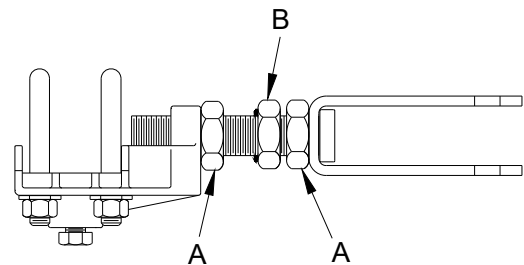

Fig 10. Vernier Adjustment On Offset Rod
- e. To adjust the offset rod length, loosen the locking nuts (Fig. 10, A) and rotate the turning nut (Fig. 10, B) to lengthen or shorten the offset pipe. Then tighten the locking nuts.